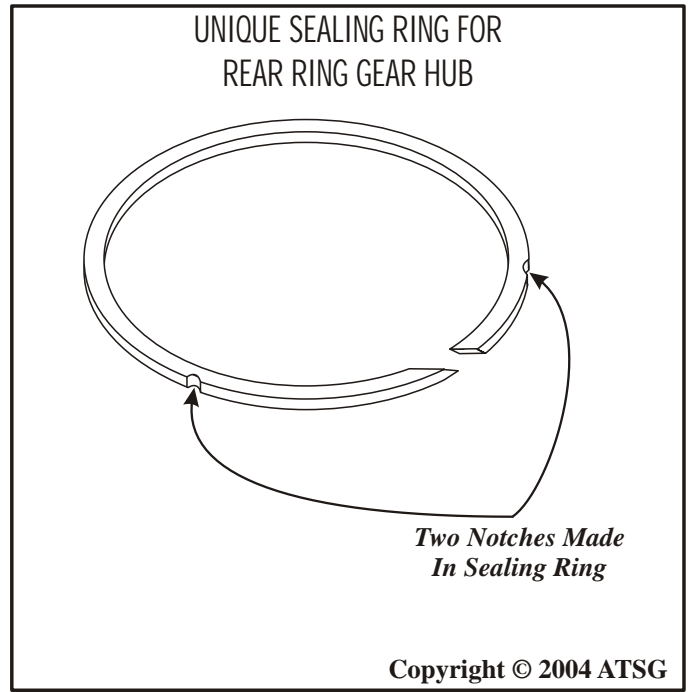

Figure 100
**Caution: This sealing ring is manufactured with two small notches in the outside diameter as shown in Figure 100, and must be installed in this location.**